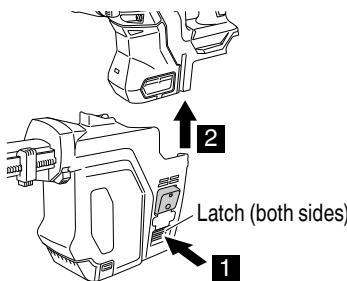

Fig. 4
### (2) Removing the dust extractor system (Fig. 4)